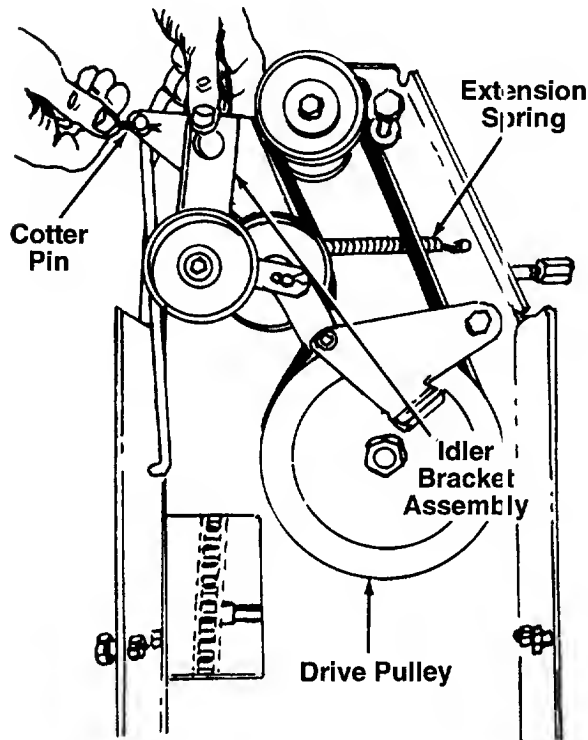

FIGURE 35.
- a. Remove the cotter pin which holds the linkage rod to the idler bracket assembly. See figure 35.
- b. Unhook extension spring from the engine plate. See figure 35.